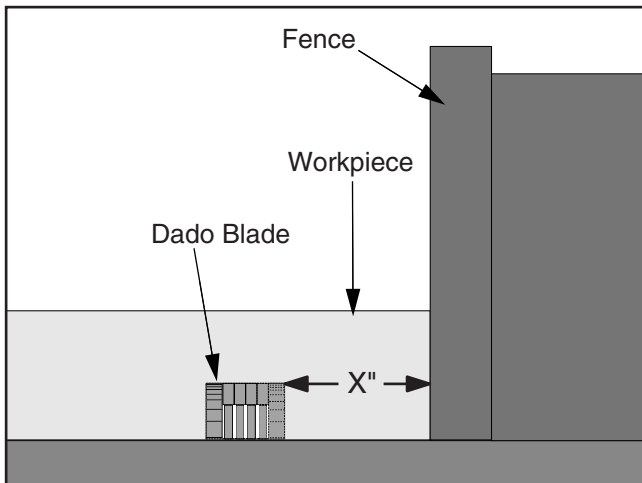

Figure 41. Stacked or wobble dado cut.
6. If dadoing the length of a workpiece, adjust the distance between the fence and the inside edge of the blade as shown in **Figure 41** on the next page.